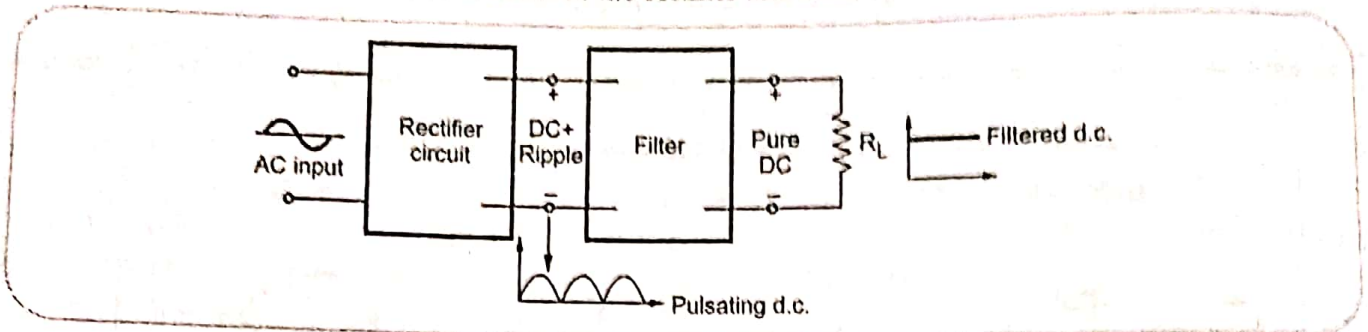

Fig. Q.24.1 Rectifier and filter
- The filter circuits are connected between the rectifier and load, as shown in the Fig. Q.24.1.